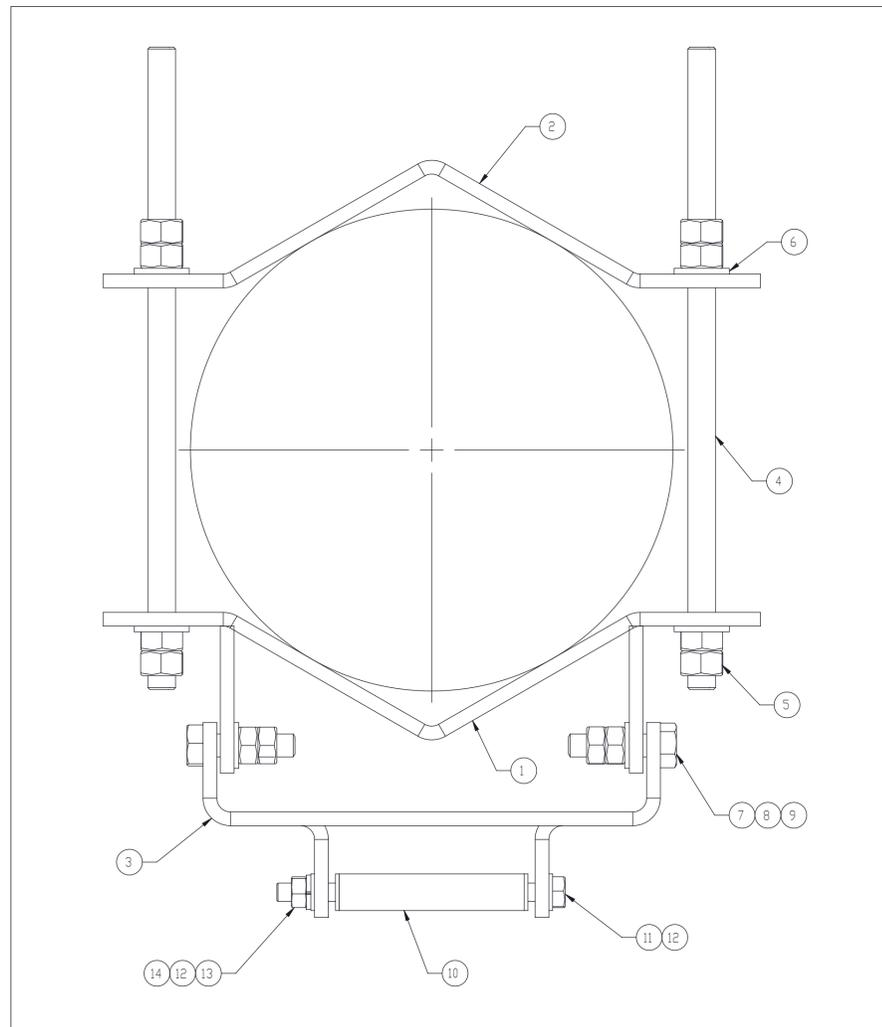
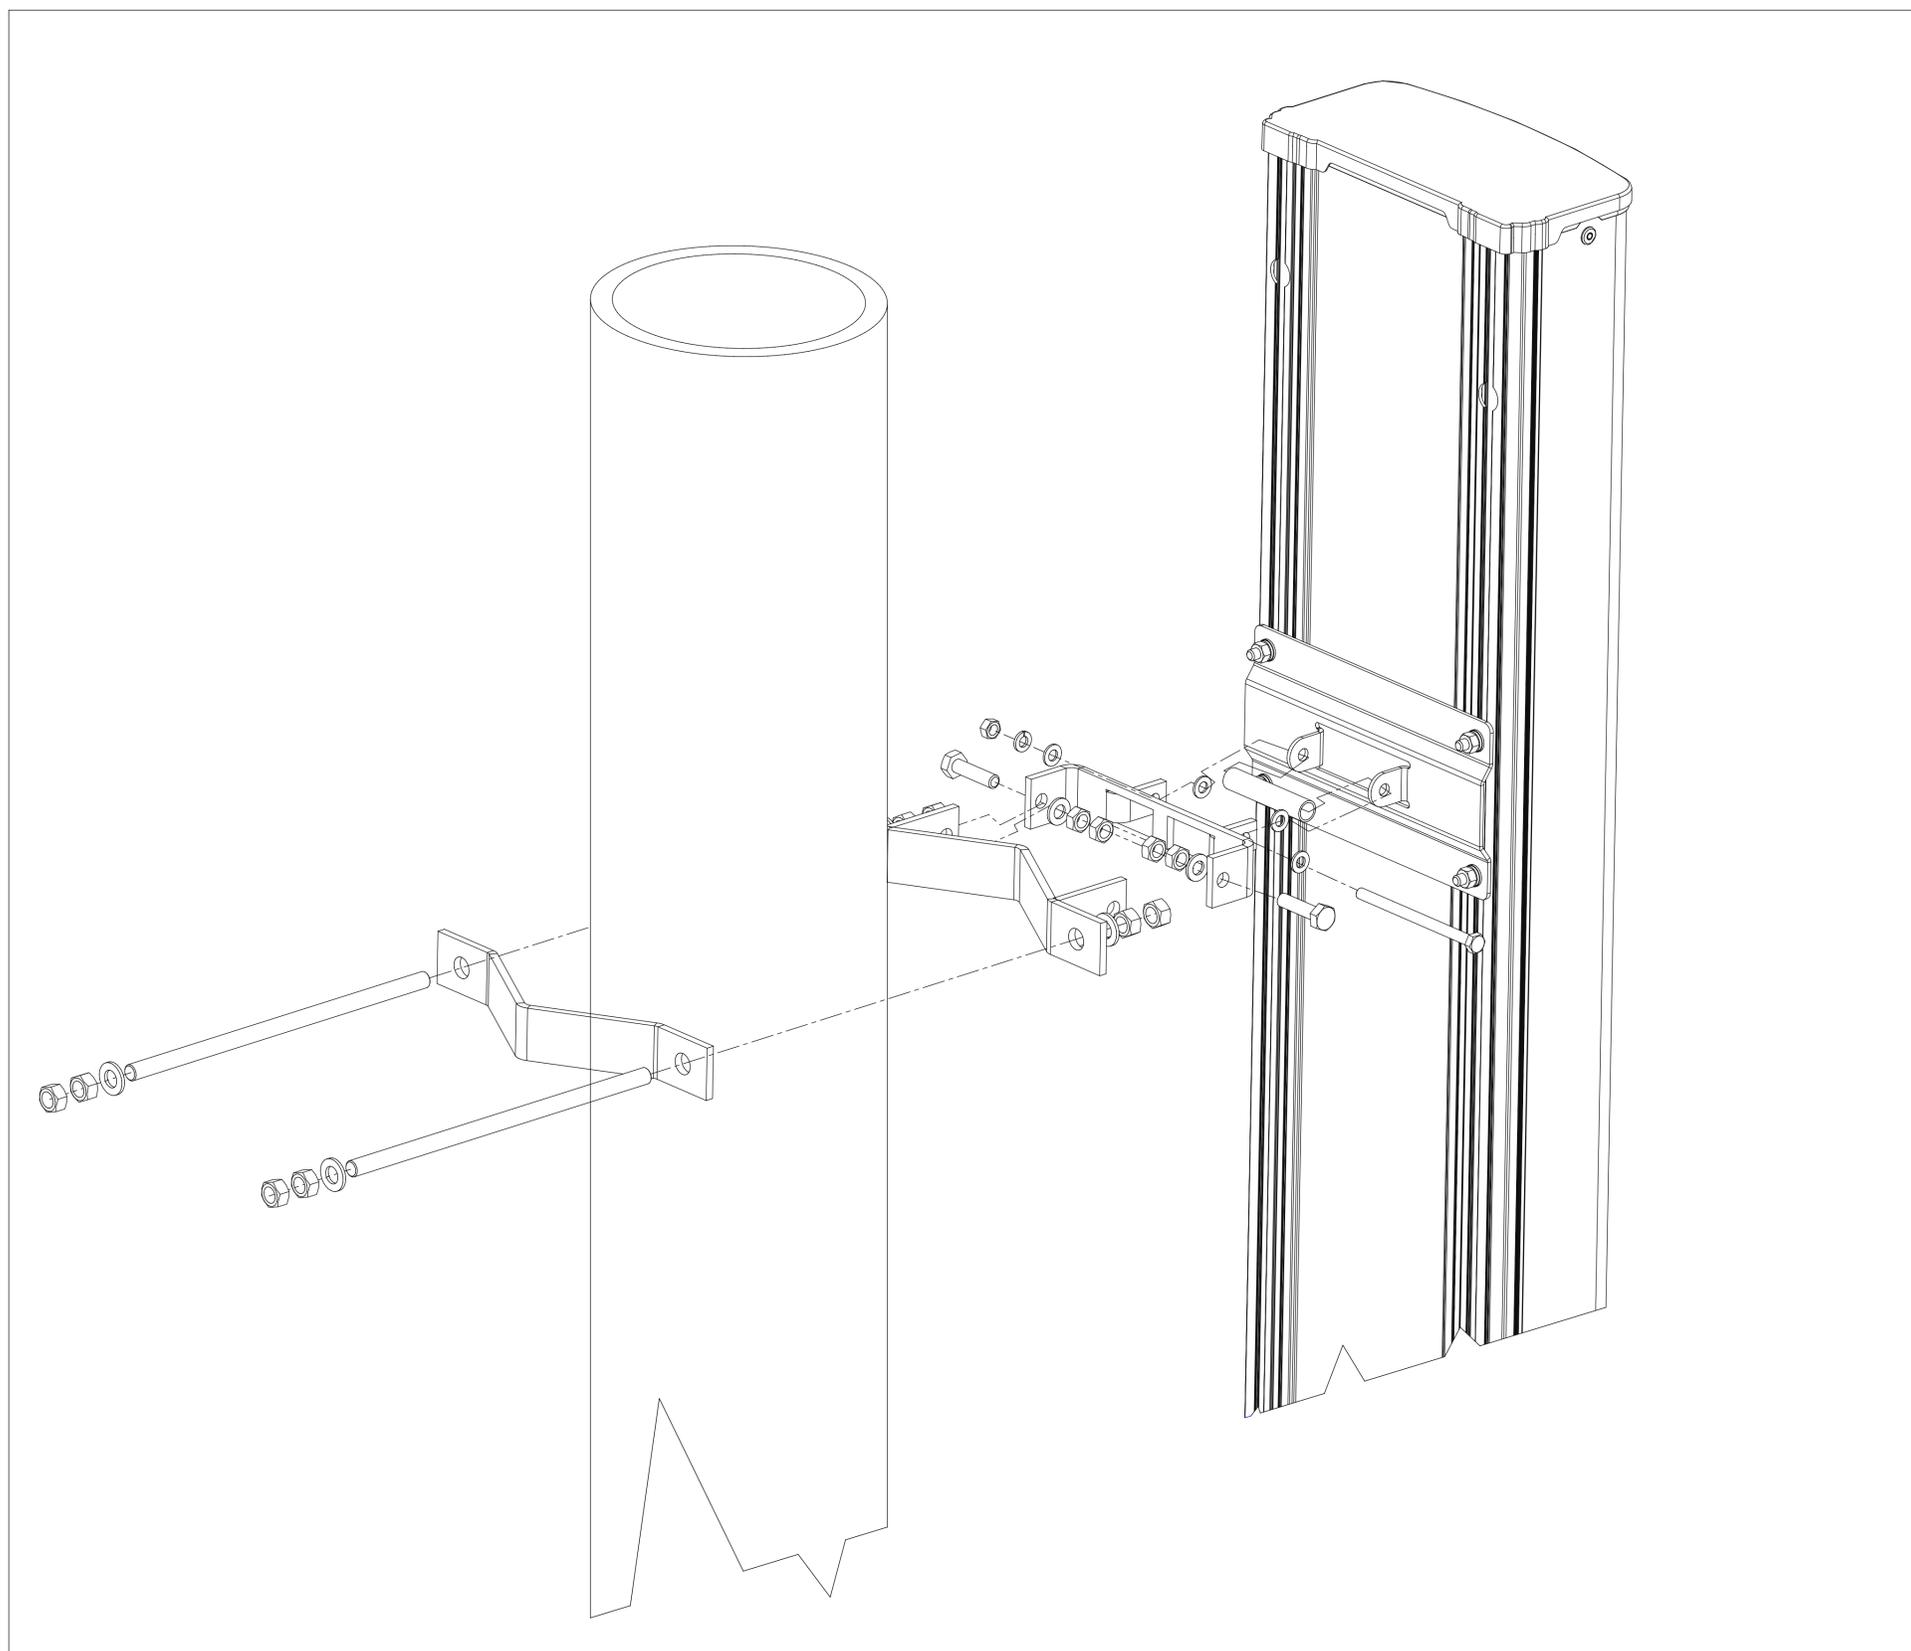

Figure 1. DB380-9 Pipe Mounting Kit.
Figure 2. Mounting Antenna to Mast Using DB380-9 Pipe Mount Kit
4. Attach the adapter brackets (Item 3 in Table 1 and Figure 1) to the top and bottom brackets on the back of the antenna using the spacer and the M8 hardware (Items 10 through 14, Table 1, Figures 1 and 2).
5. Insert the M12 bolts into the pipe brackets with tabs (Item 1 in Table 1 and Figure 1) and attach using 2 M12 nuts (Item 5, Table 1, Figure 1) as shown in Figure 2.
6. Using the M10 bolts, flat washers, and nuts (Items 7 through 9, Table 1, Figure 1), attach the pipe brackets with tabs to the antenna's adapter brackets (Figure 2).
7. Bring the antenna into position on the tower. From the other side of the tower, feed the pipe brackets without tabs (Item 2, Table 1, Figure 1) onto the M12 bolts and secure with M12 flat washers and nuts. See Figure 2.